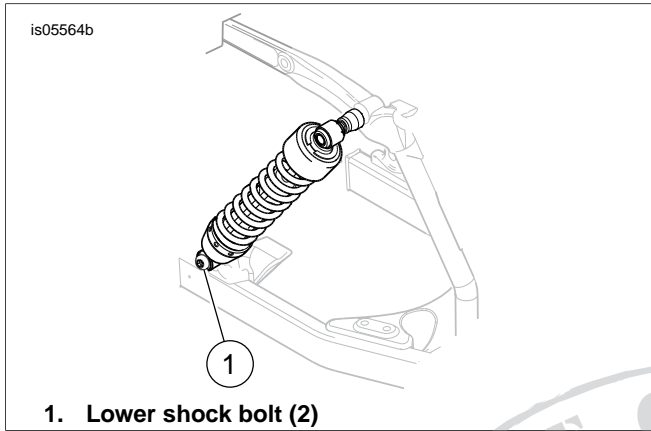

Figure 2. Remove Lower Shock Bolt (Right Side Shown)
- See Figure 2. Remove the lower shock bolt (1) from each shock.